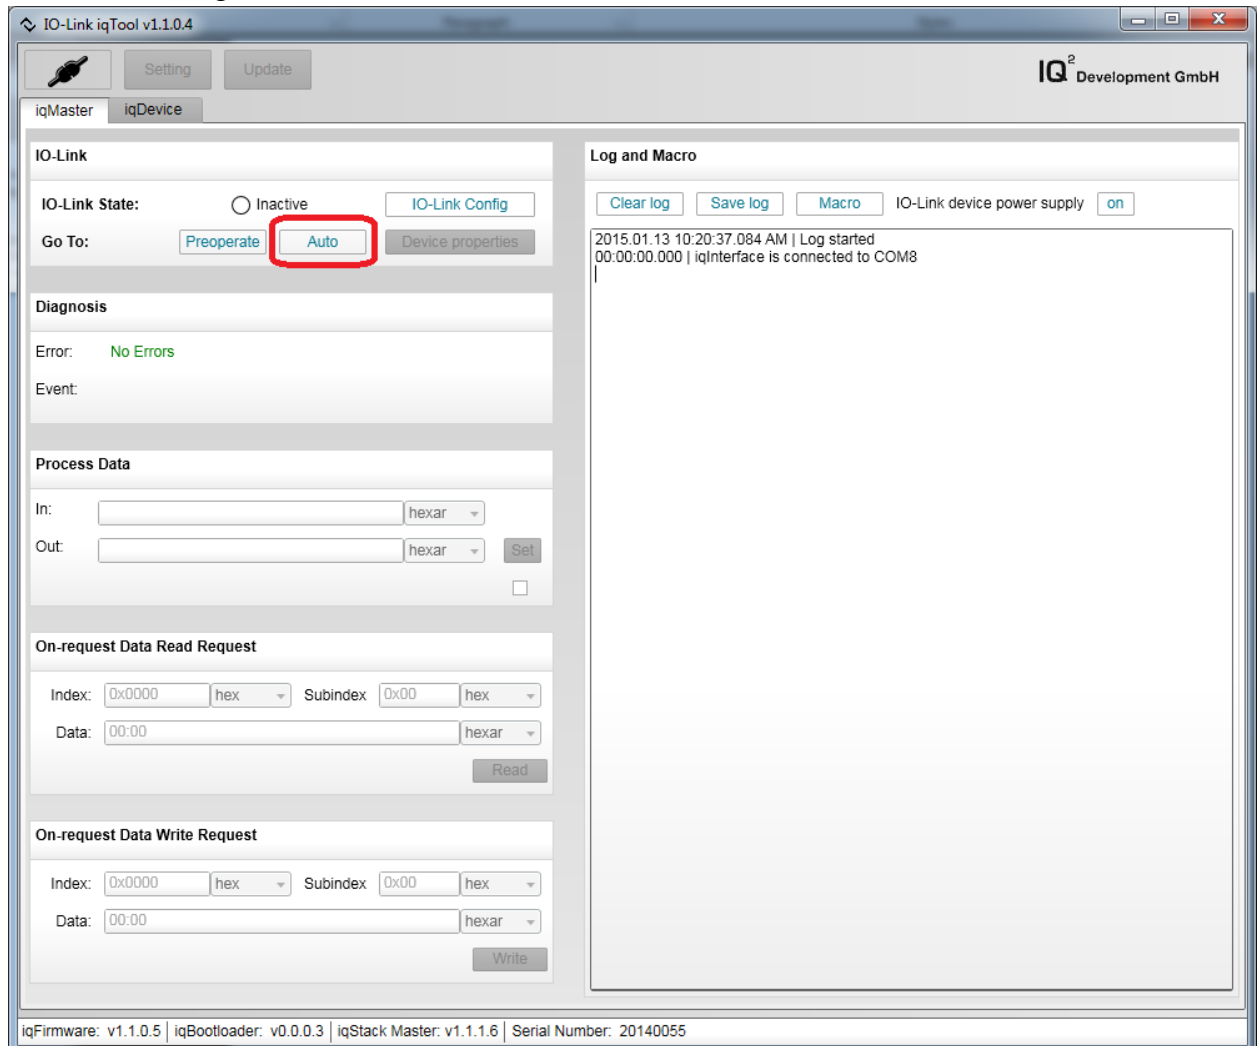

Figure 11. iqTool Auto button.
11. After the iqTool has connected to the correct COM port, press the **Auto** button as shown in Figure 11.